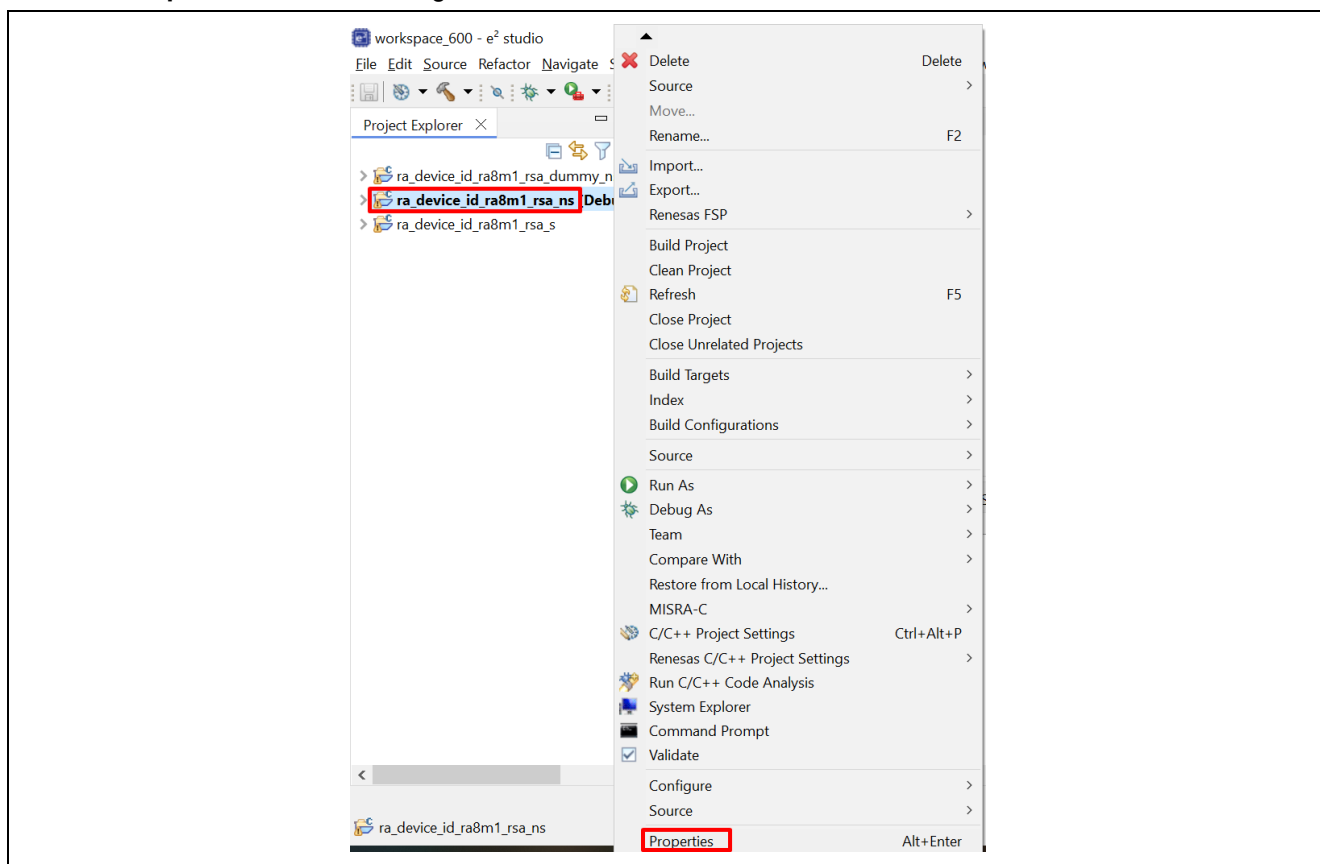

Figure 12. Open the Properties Menu
- A. Update the matching secure bundle based on current project folder location. The secure bundle is linked as an absolute path. Right click on `ra_device_id_ra8m1_rsa_ns` project and select **Properties** as shown in Figure 12.